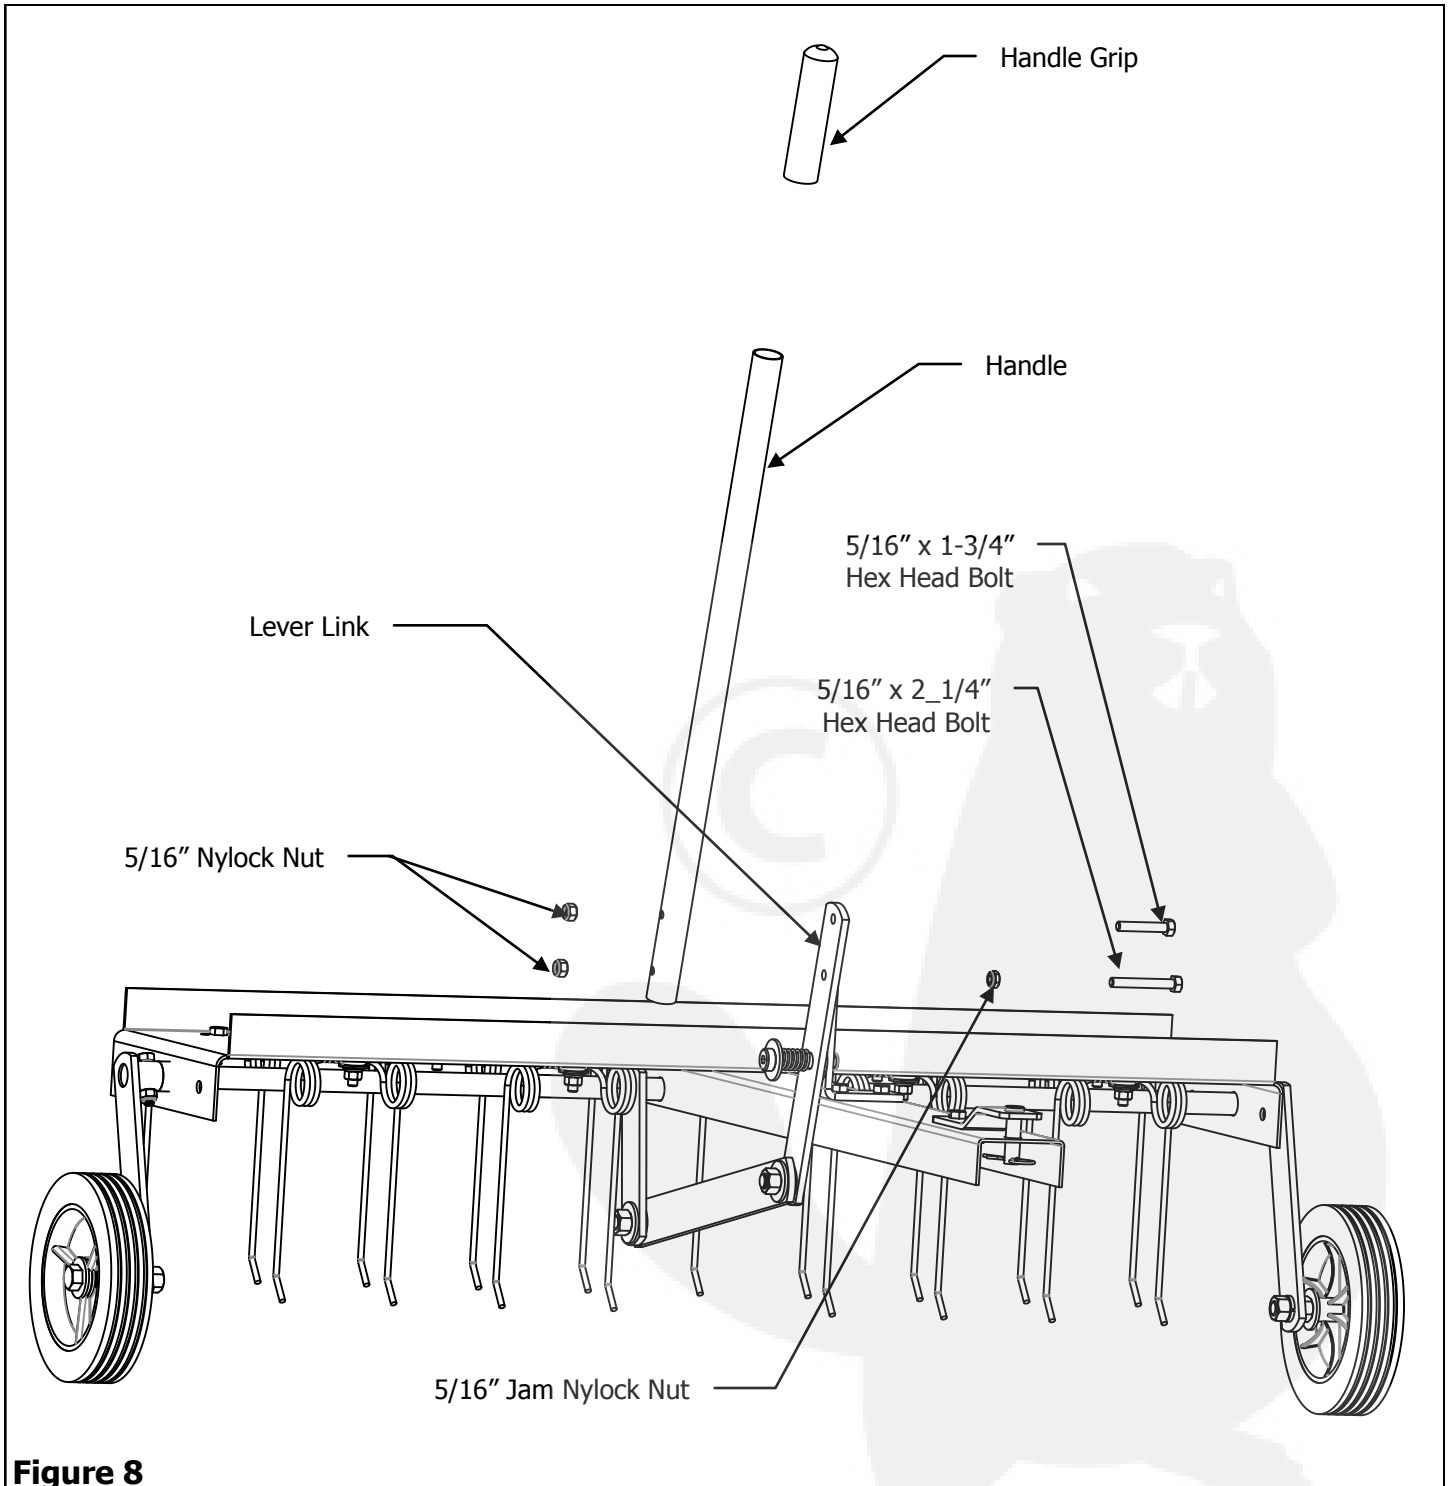

Figure 8
8. Attach the Handle Grip to the Handle. Insert the 5/16" x 1-3/4" Hex Head Bolt in to the top hole in the Handle (from the right side as us are facing the unit), then through the top hole of the Lever Link and secure with a 5/16" Nylock Nut. Attach the 5/16" Nylock Jam Nut to the 5/16" x 2-1/4" Hex Head Bolt (leaving about 1/2" spacing at the top). Insert the bolt into the second hole of the Handle (from the right as you are facing the unit), and the Lever Link, then secure with a 5/16" Hex Head Nut. See Figure 8.